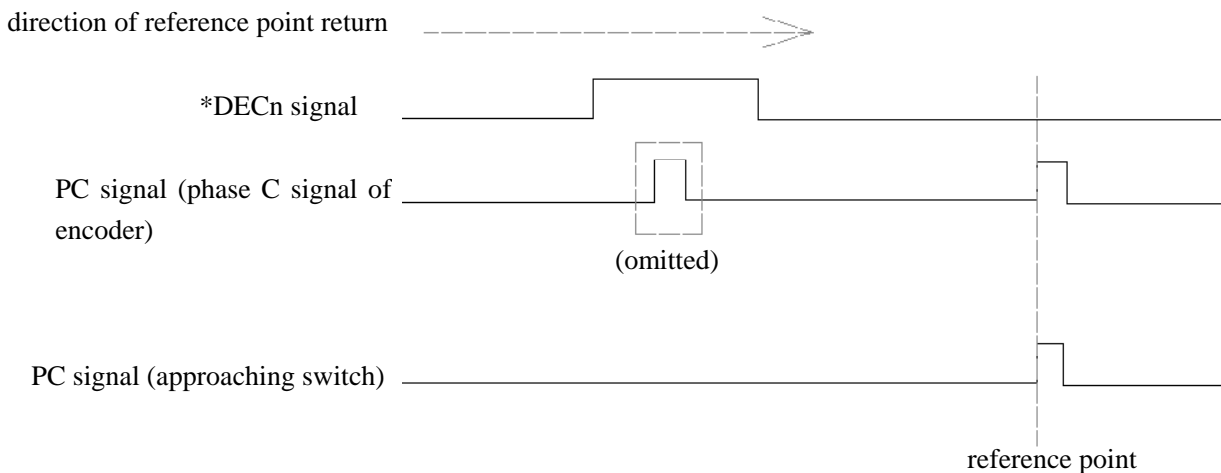

Fig.2-8
a) User should provide nPC as fig.2-8: